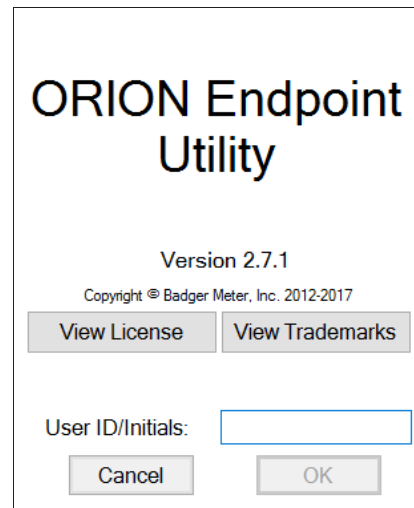

Figure 6: ORION Endpoint Utility login screen
*Result: The login screen opens (Figure 6). The login screen has the software version, and access to the license and trademarks.*